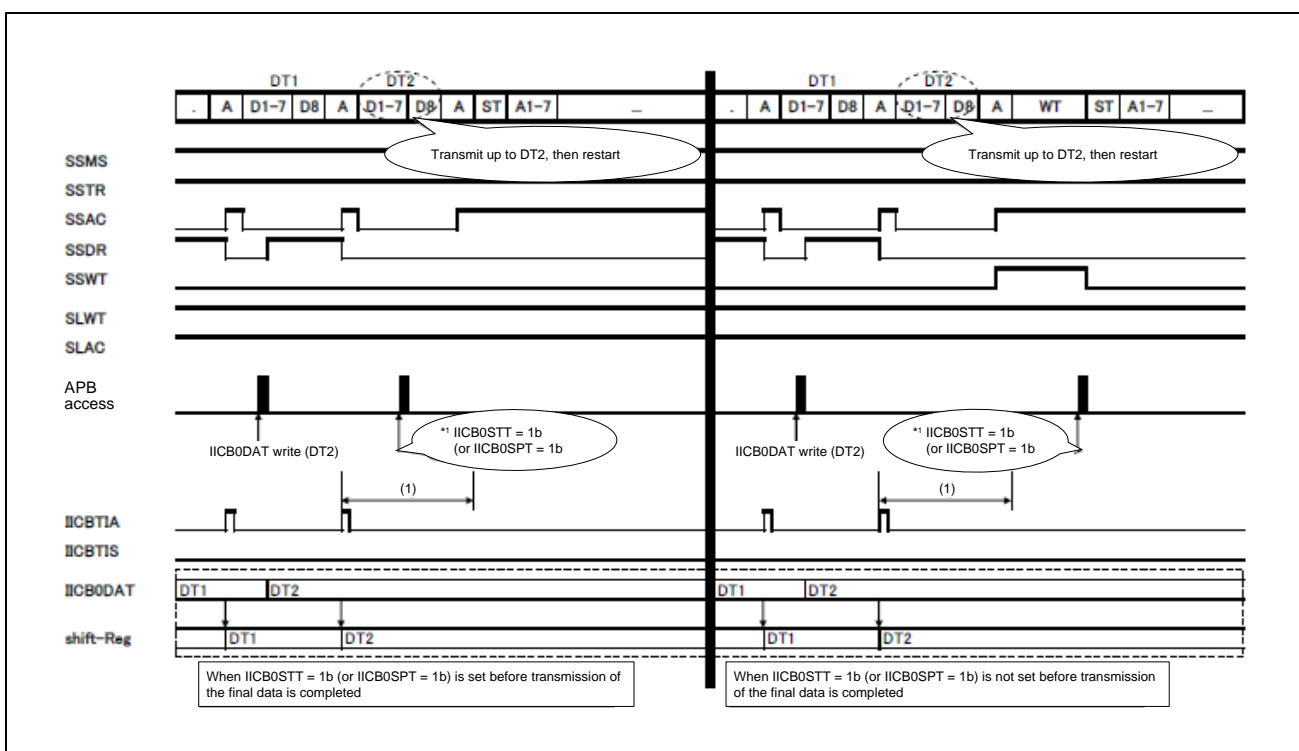

Figure 29.6-10 Operations for Final Data Processing in Transmission (IICB0SSMS = 1b & Continuous Transfer Mode)
In master operation, a restart or stop condition is issued after the completion of transmission of the final data by writing 1b to IICB0STT or IICB0SPT after the IICBTIA interrupt following writing of the final data (with the timing of *1 in **Figure 29.6-10** when a restart or stop condition is set).
Figure 29.6-10 shows the operations for final data processing in the case of master operation.
When both writing 1 to IICB0STT and writing 1b to IICB0SPT proceed in the interval (1) in **Figure 29.6-10**, the subsequent setting is enabled and the previous setting is disabled.